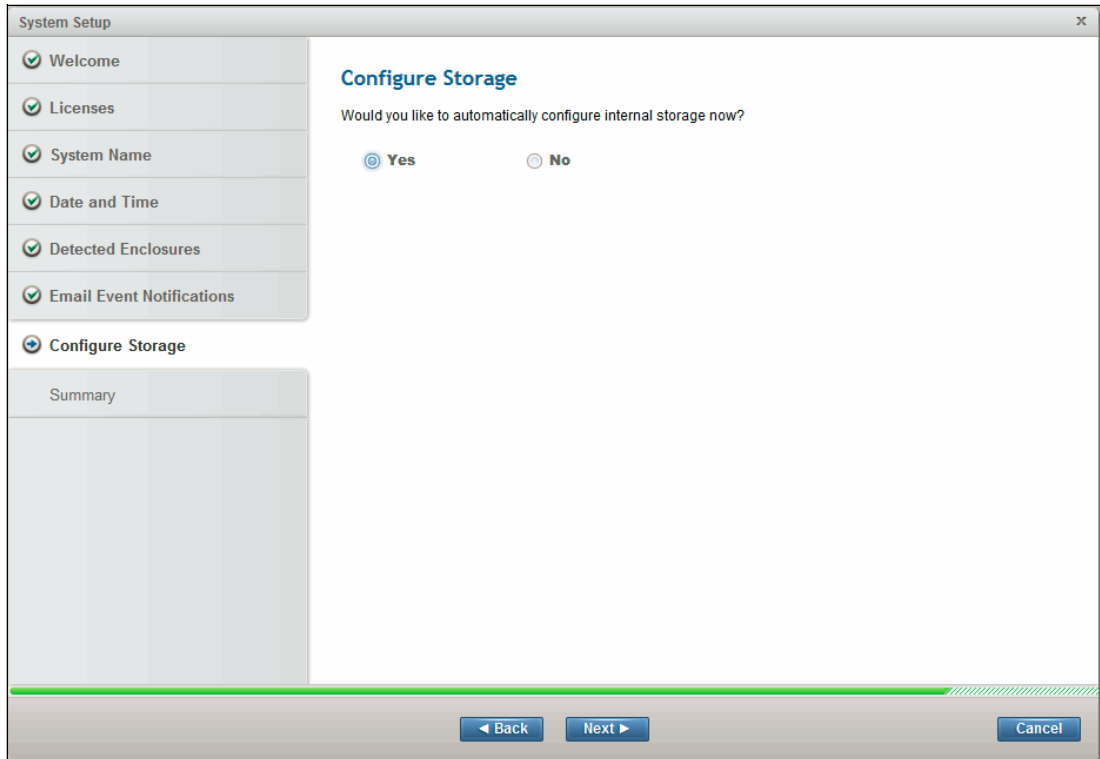

Figure 5-28 Configure Storage
22. You are then asked if you want the Storwize V7000 Gen2 to automatically configure storage (Figure 5-28). Select whether you want storage to be configured automatically now or later. For information about how to configure the storage manually, see 8.2.3, “Configuring internal storage” on page 157.